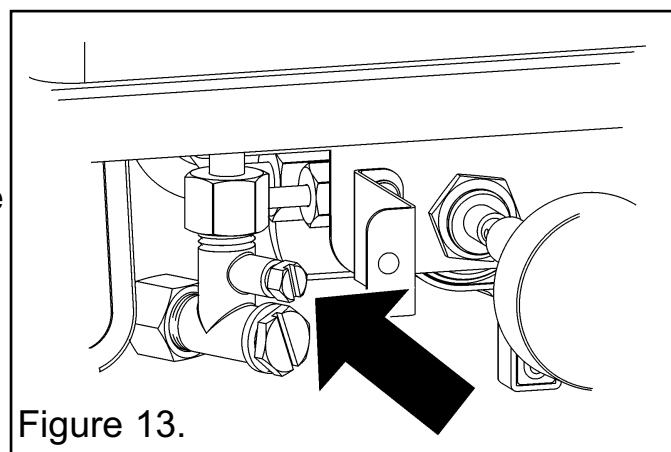

Figure 13.
1. Ensure that the stove is turned OFF before removing the pressure test point sealing screw. Check the inlet pressure by fitting a pressure gauge at the test point. The test point is on the inlet 'T' connector (See figure 13). Check the pressure with the appliance alight and set at maximum output.